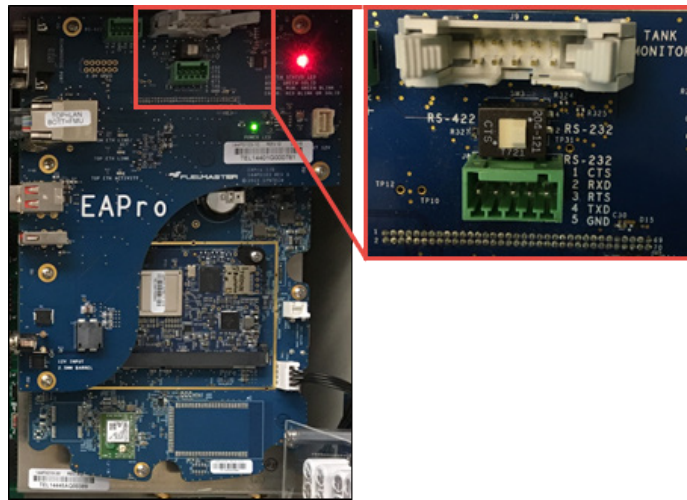

Figure 63 TMU Connector Magnified
1. Verify the switch underneath the TMU connector is slid to the right (Figure 63), selecting RS-232.